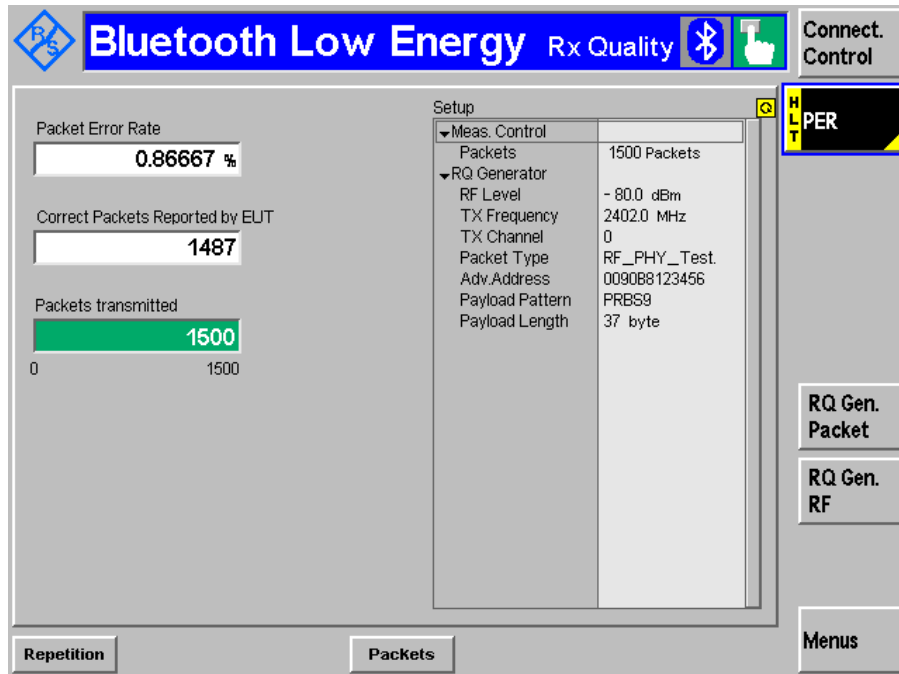

Figure 5. “Receiver Quality” window—starting the PER test
- On the CBT, please select “Connect. Control” in the upper right corner (Figure 5). A new window appears. In this window, you can enable the test mode and modify various parameters to suit various test configurations. Make sure the “Connection” tab is selected (in the bottom left corner of the display).
- Select “PER” to start the PER test (Figure 5).